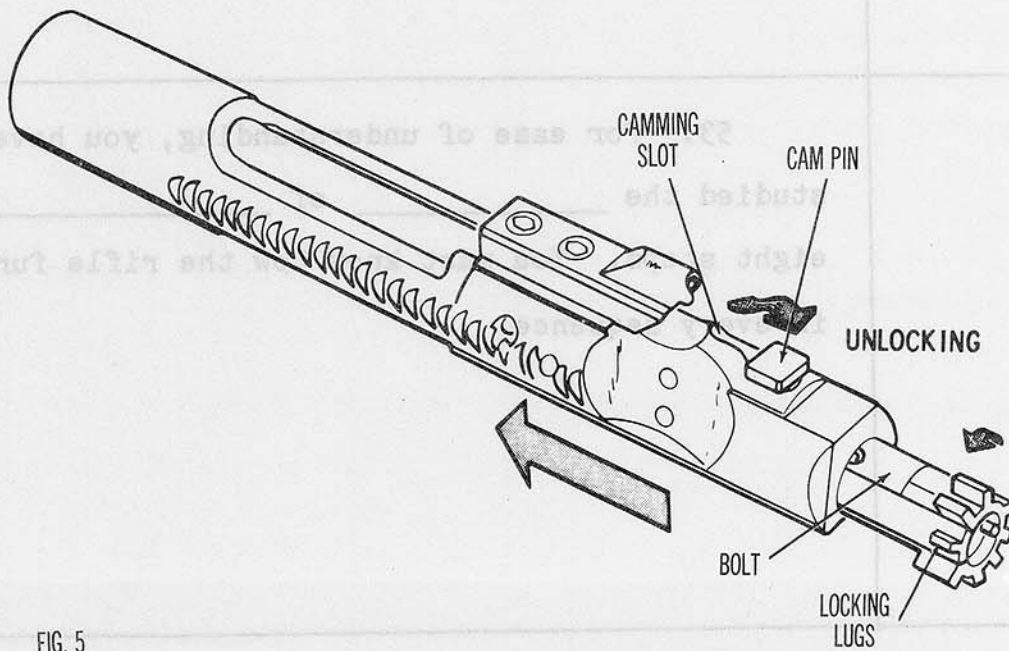

FIG. 5
34. As the Bolt C is moved to the rear, the Cam Slot in the upper surface of the Bolt Carrier causes the Cam Pin and Bolt to rotate, unlocking the Locking Lugs on the Bolt from the Locking Recesses in the Barrel (fig. 5).